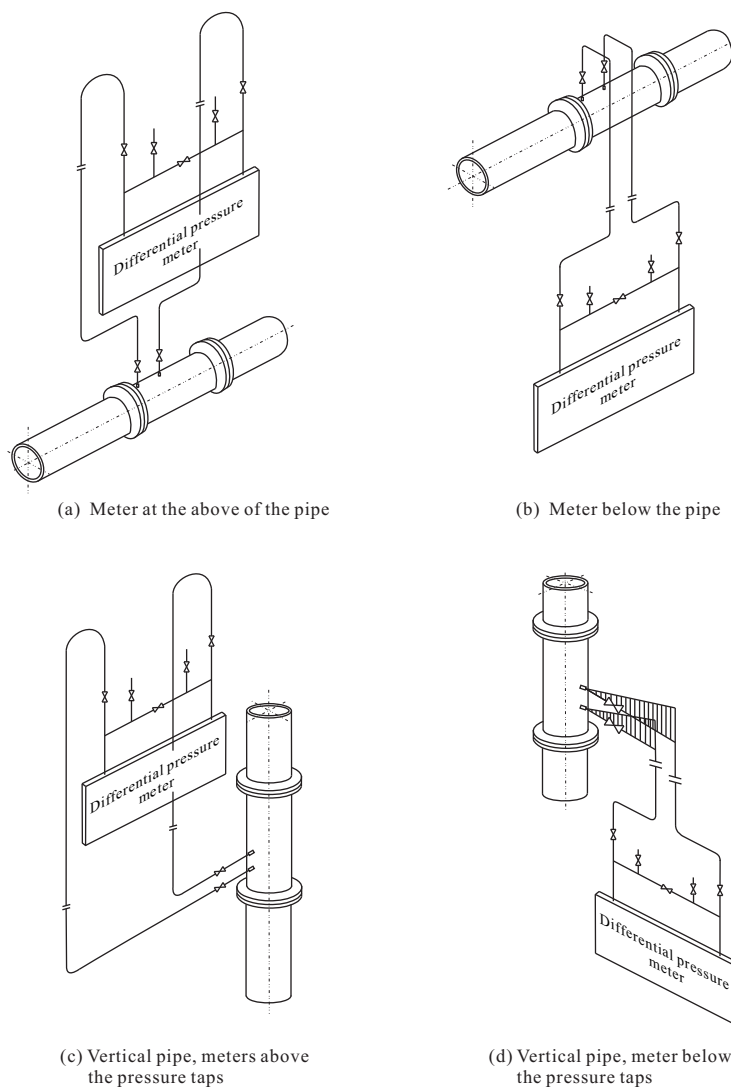

Figure 6.2.2 The signal line installation diagram of measuring clean dry gas flow
When the measured fluid is clean dry gases, the method of installation of the signal pipeline is shown in figure 6.2.2.
- (1) The differential pressure transmitter is preferably installed above the orifice flowmeter, as shown in figure 6.2.2 (a).
- (2) If the differential pressure transmitter has to be installed under the orifice flowmeter, the pressure guide tube should be bent upwardly then downwardly, as shown in figure 6.2.2 (b).
- (3) If orifice flowmeter was installed on vertical pipes, differential pressure transmitter is located above the taps, the tubing installation can be conducted in accordance with figure 6.2.2 (c).
- (4) If orifice flowmeter was installed on vertical pipe, differential pressure transmitter is located under the taps, the tubing installation can be conducted in accordance with figure 6.2.2 (d).